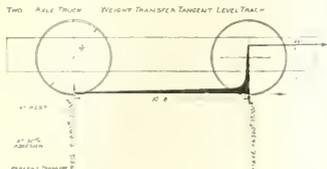

FIG. 2.
The electrolytic lightning arrester consists of a system of nested aluminum cup-shaped trays (supported on porcelain and secured in frames of treated wood) arranged in a steel tank. The system of trays is electrically connected between line and ground and between line and line. The shape of the trays is shown in Fig. 1 and the assembly in Fig. 2. A cross-section of the complete arrester is shown in Fig. 3. A certain amount of electrolyte is placed in each tray and, due to the shape the liquid comes in contact with the bottom of the tray immediately above. Every tray is filled, so that there is a complete connection throughout the whole series of trays. Transformer oil is then poured into the tank. The electrolyte is heavier than oil and therefore remains in the bottom of the trays. The oil serves four purposes, viz.: (1) It improves the insulation between the trays. (2) It increases the insulation between the tanks and the trays in all cases where insulation is necessary. (3) It prevents evaporation of the electrolyte. (4) It helps to dispose of the
with 30 per cent adhesion, the weight transfer of this wheel arrangement is no more than 6 per cent, while if the wheel base was as short as 10 ft. 6 ins., Fig. 2, the weight transfer under the same condition would be 16.4 per cent. From this it can be seen that for drag or heavy freight service, the use of side rods has a distinct advantage, since all of the driving wheels on the truck are coupled.